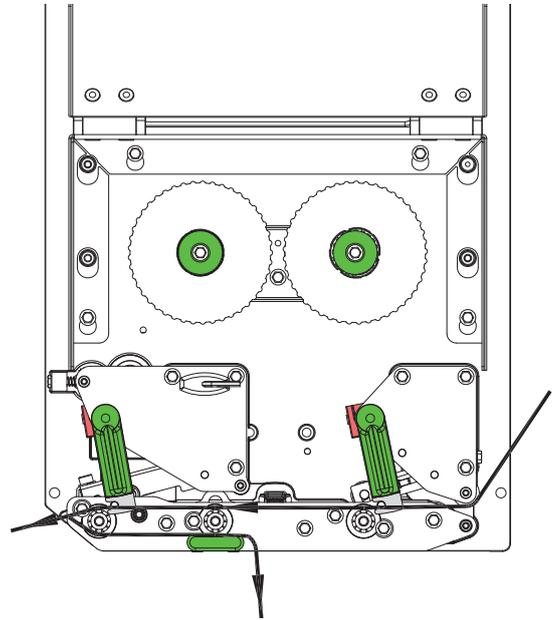

Fig. 8 Label feed path
2. Turn levers (3, 10) counterclockwise to open the printhead (1) and the backfeed system (9).
3. Move guide rings (4) outwards until the media can pass between the rings and the mounting plate.
4. Guide label strip (8) to the peel-off edge (2) as shown in the figure 8 and move to the mounting plate until it stops. The printing side of the label must be shown from above.
5. For peel-off mode forward the label strip over the peel-off edge, that the strip reaches back to the locking system (5). Remove the labels from the overhanging strip.
6. Turn levers (3, 10) clockwise to close the printhead (1) and the backfeed system (9).
7. Slide guide rings (4) against the label strip.
8. For peel-off mode pull the knob (6) and swing downward the locking system (5). Guide the liner (7) from the peel-off edge (2) over the locking system (5). Tighten the liner, pull the knob (6) and swing the locking system upwards. Ensure that the knob snaps in completely into the side plate.